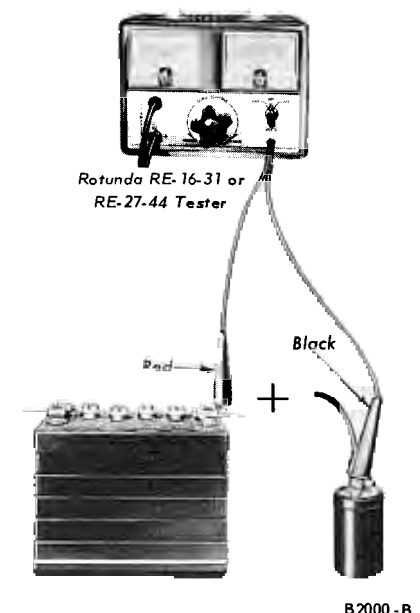

FIG. 3—Battery to Coil and Starting Ignition Circuit Test
1. Connect the voltmeter leads as shown in Fig. 3.